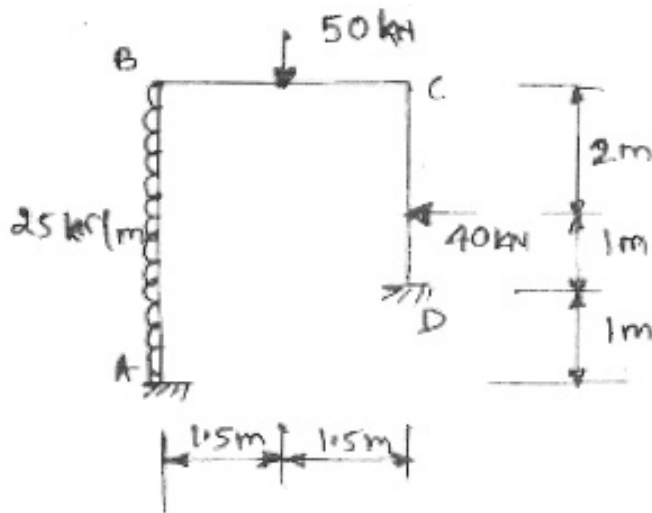

Fig. 9
9. Analyze the rigid jointed plane frame supported and loaded as shown in fig. by stiffness method. Draw BMD and Elastic curve. Take  $EI = \text{Constant}$ . Refer Fig. 9